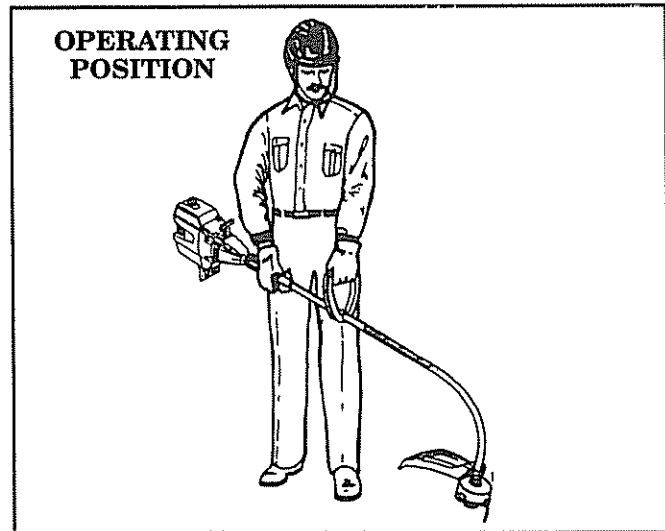

Figure 4
- Before starting the engine, stand as shown in Figure 4 and check for the following: